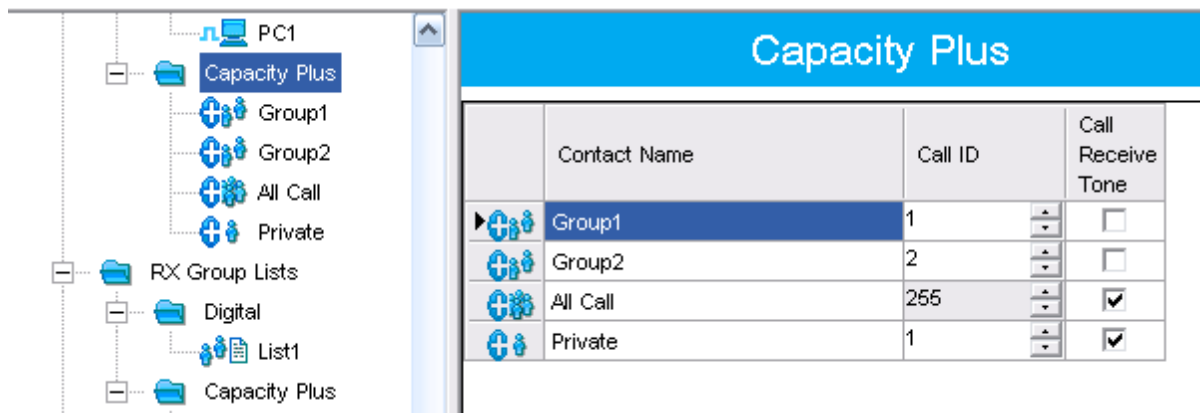

Fig. 26 - Adding contacts
7. Create Capacity Plus contacts (Fig.26).